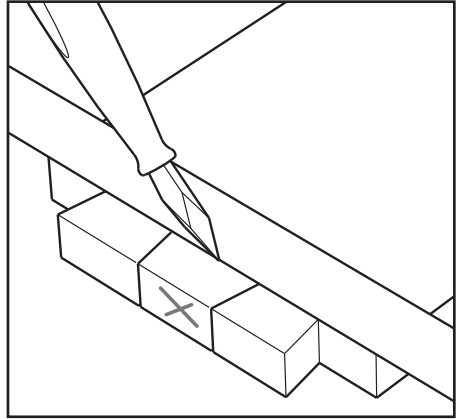

Figure 16: Scoring the depth of the dovetails.
16. Clamp the cut tail board flat to the bench and score the bottom of the waste area(s) with a sharp knife and straight edge (**Figure 16**).